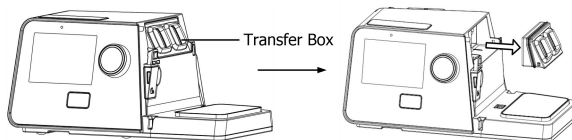

Fig. 18-1
- (1) Remove the Water Chamber according to the instructions in Section 14.1.1. Remove the Transfer Box as shown in Fig. 18-1.